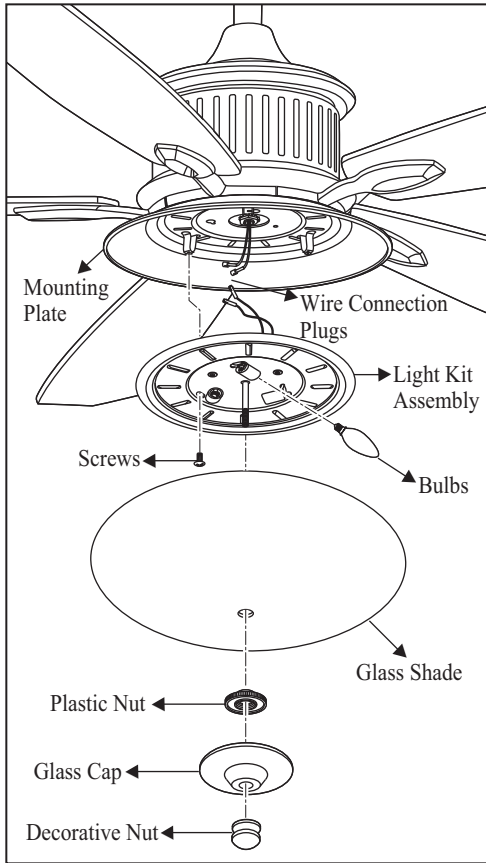

Figure 18
1. Remove 1 of the 3 screws from the mounting plate and keep it for future use. Loosen the other 2 screws. (Do not remove) (Fig. 18)
3. Place the key holes on the light kit over the 2 screws previously loosened from the mounting plate, turn light kit until it locks in place at the narrow section of the key holes. Secure by tightening the 2 screws previously loosened and the one previously removed. (Fig. 18)
4. Install 3 x 40W candelabra bulbs (included). (Fig. 18)
glass frame over the light kit stem, secure with the glass cap and decorative nut. Do not overtighten. (Fig. 18)